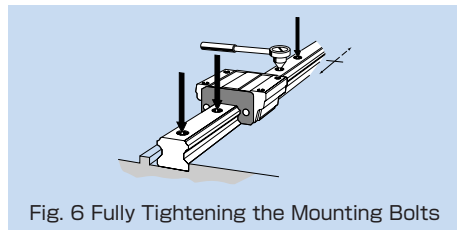

Fig. 6 Fully Tightening the Mounting Bolts
④ Tighten the mounting bolts at the designated torque using a torque wrench (see Fig. 6, and tables 1 and 2 on page a-80).